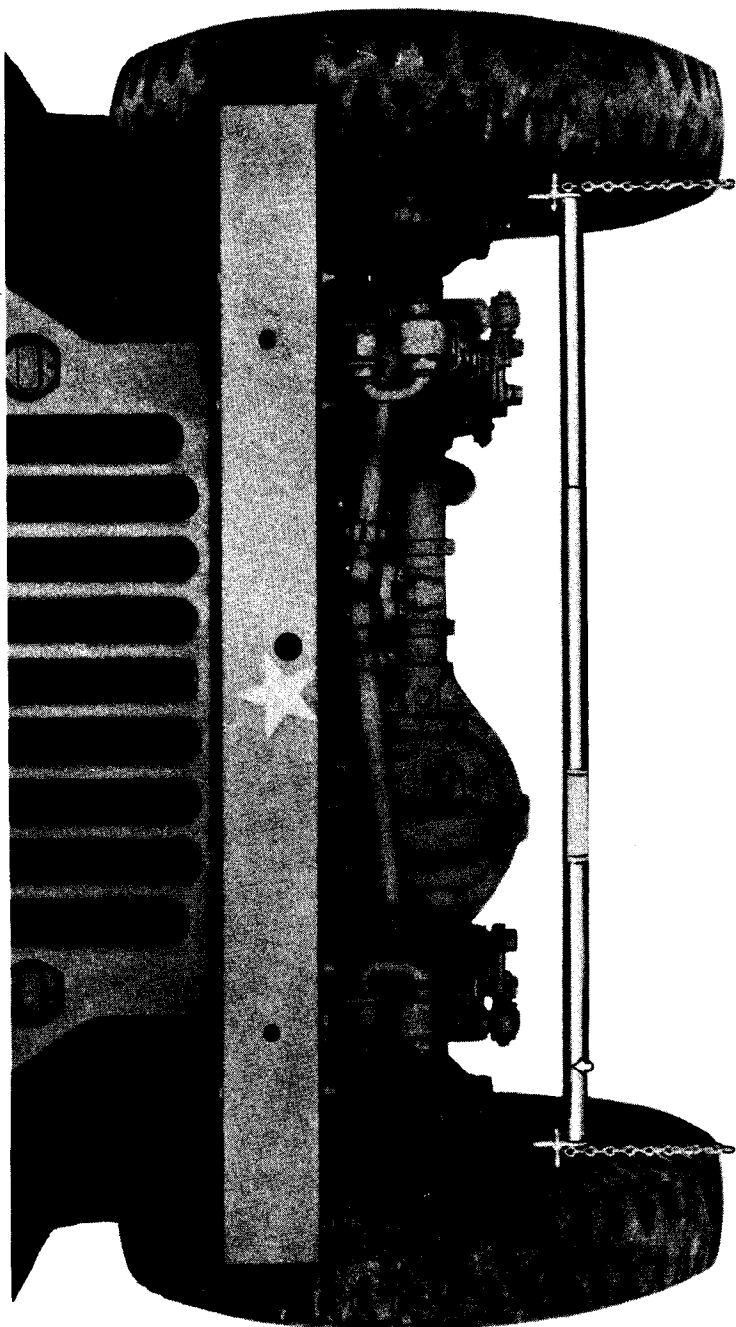

Figure 75 — Adjusting Toe-in, Using Wheel Alining Gage 41-G-510
(2) **ADJUST TOE-IN** (fig. 75). After the tie rods have been equalized, pull the vehicle forward at least three feet to remove the backlash and place the telescoping wheel alining gage 41-G-510 between the wheels in front of the axle so that the chains on both ends of the gage are barely touching the floor. Set the scale so the pointer registers zero. Pull the vehicle forward until the gage is brought to a position back of the axle with both chains barely touching the floor. The reading at this point will be the amount of toe-in or toe-out. Adjust the right-hand tie rod until a toe-in of $\frac{1}{16}$ inch is obtained. Recheck the toe-in after making the adjustment. Tighten the tie rod clamps.